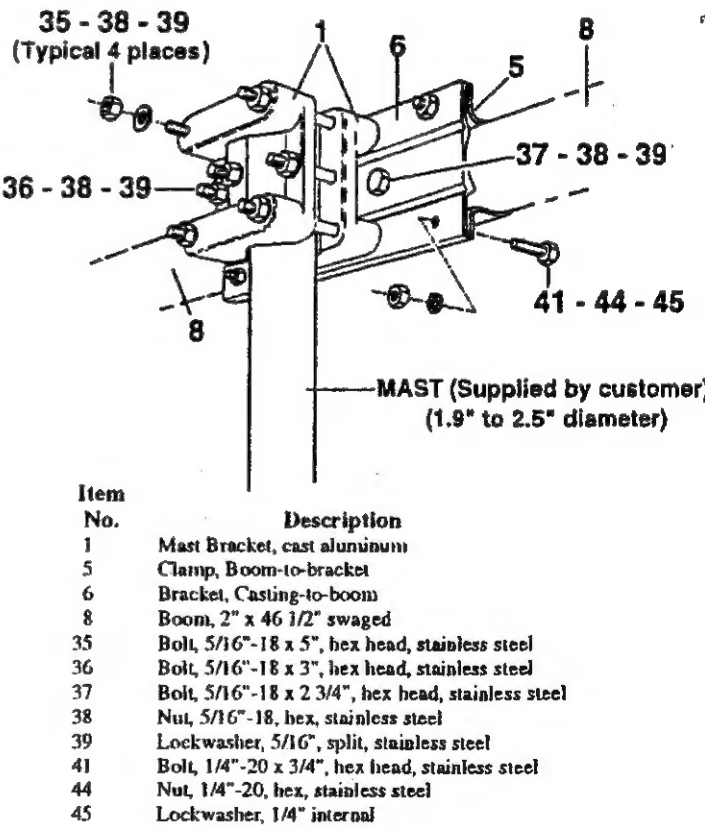

Figure 1
The cast aluminum boom-to-mast brackets must be removed from the temporary mast and installed on the permanent mast as shown in Figure 1. Attach a gin pole to the tower or mast to assist in lifting the antenna. There must be at least two (2) people available when installing this antenna. **DO NOT** try to install this antenna by yourself!